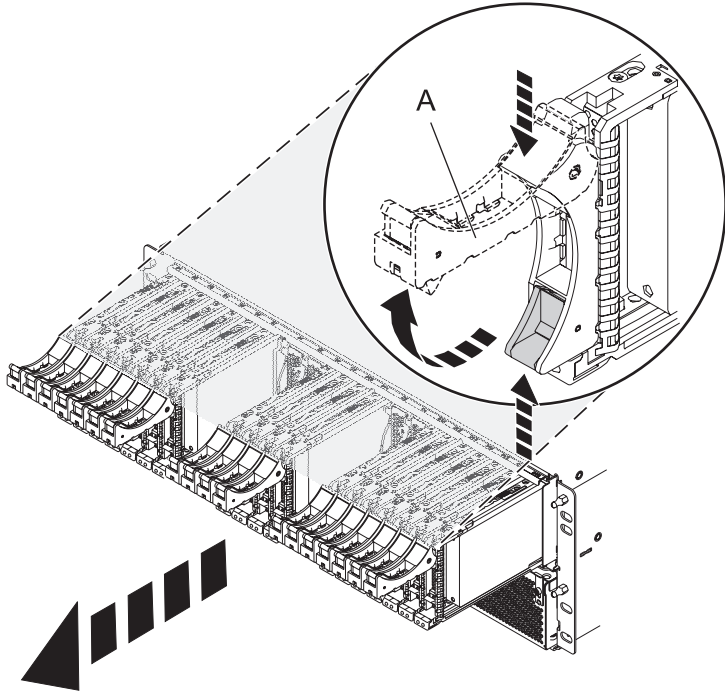

Figure 1. Removing the disk drives from the backplane
6. Remove the disk drives and fillers from the backplane in the 5802 expansion unit as shown in Figure 1 on page 3. Record the location of each of the disk drives you remove. The disk drives must be reinstalled to the same location again.
- a. Squeeze the latch of the disk drive and pull the handle (A) toward you to release the drives.